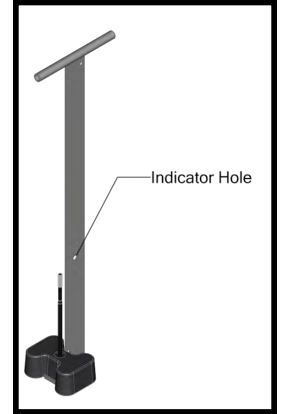

Figure 10.
3. Install coupler with seated bolt on the in-water installation tool, (Figure 10).
8. Pull up on the in-water installation tool to seat the bottom coupler. (**NOTE:** The EZ Dock and EZ Port MAX must be sitting level on the water and at the same elevation for the coupler to properly seat into the bottom pocket. This may require a counter balance weight toward the entry end of the EZ Port MAX to offset the weight of the installer who is standing at the seam between the EZ Port MAX and the EZ Dock). The coupler is fully seated in its pocket when the indicator hole on the in-water installation tool (Figure 10) is flush with the top of the dock (you should be able to insert a screwdriver through the indicator hole).